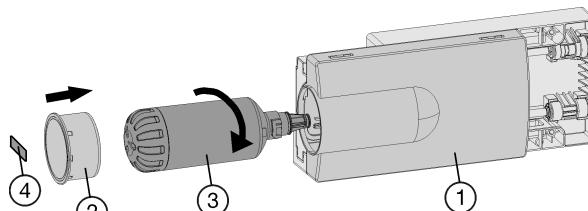

Fig. 50
- Insert the water filter Fig. 50 (3) and turn it approximately 100° clockwise until it locks into position.
- Slide the tray Fig. 50 (1) in.
- Place the cover Fig. 50 (2) on the filter.
- Write the date of the next filter replacement on the supplied adhesive label Fig. 50 (4) and affix it to the module.